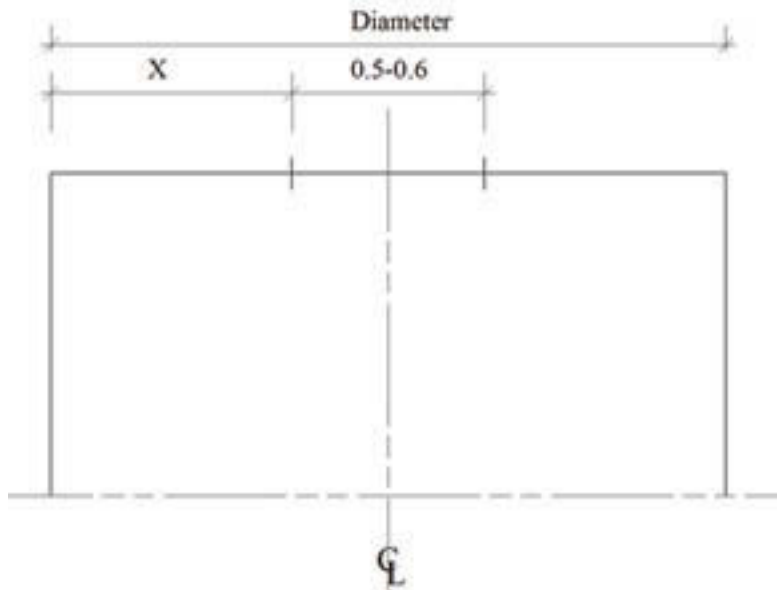

Fig. 75: Tank shape, top — Step 1
1. The next step is to calculate the curves that give the tank its jar shape. Draw the top as a rectangle, leaving a 0.5–0.7 m opening for a maintenance hatch (figure 75).